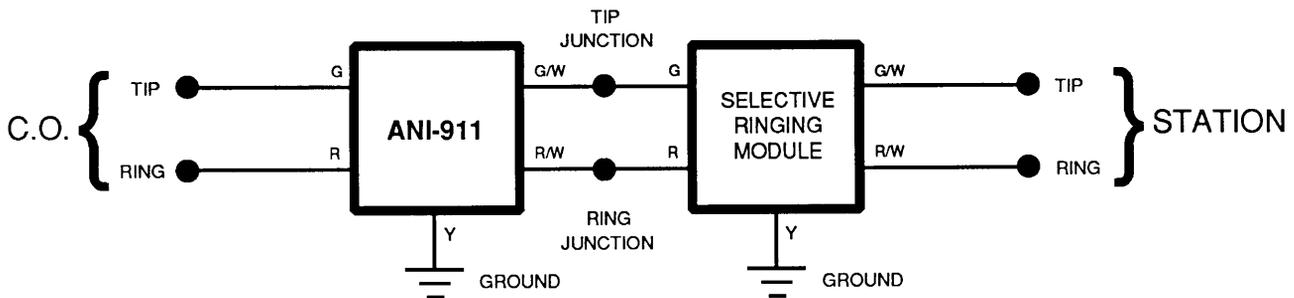

Fig. 3—Block Diagram showing ANI-911 wired in conjunction with a selective ringing module
3.07 When installing the ANI-911 in conjunction with a Keptel Selective Ringing Module, refer to Figure 3.
3.08 If installing the ANI-911 in conjunction with a Selective Ringing Module or Ringer Isolator, made by a manufacturer other than Keptel, refer to Figure 3.